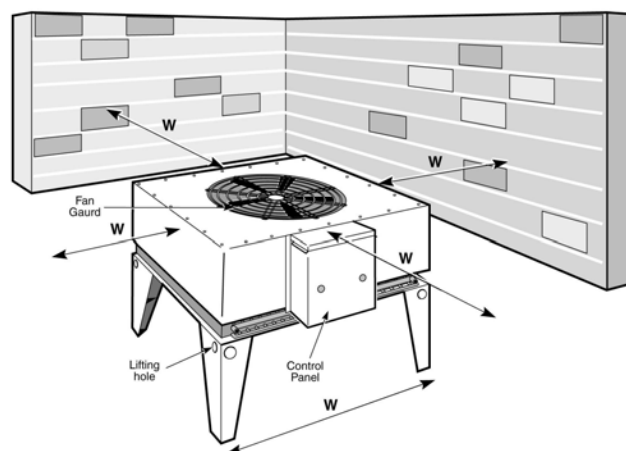

Figure D-4. Typical Outdoor Condenser Installation
This condenser is used in air conditioning mode where it rejects unneeded heat from the space to outdoors. Proper installation is essential to ensure it can function as intended. Proper airflow and refrigerant piping are paramount. Ensure an appropriate maximum ambient air temperature has been specified. Ensure the unit has proper airflow per **Figure D-4**. A perimeter of free area equal to its width must be provided. Use line sizes as specified by Seresco. To avoid potential seasonal system charge problems, ensure the installed line lengths are never longer than indicated on the plans and specifications. If the condenser is installed above the dehumidifier, ensure the hot gas line has proper oil traps. Contact Seresco if the condenser is installed more than eight (8) feet below the dehumidifier. The installer must endeavour to ensure that all industry standards for refrigeration component installation are met. This includes but is not limited to; proper line sizing, materials, nitrogen purging, brazing with Silfos 5 or better (NO SOFT SOLDER), evacuation, cleanliness, traps, long radius elbows and system charging. Install the remote condenser on a level, hard surface. Bolt the condenser in place.